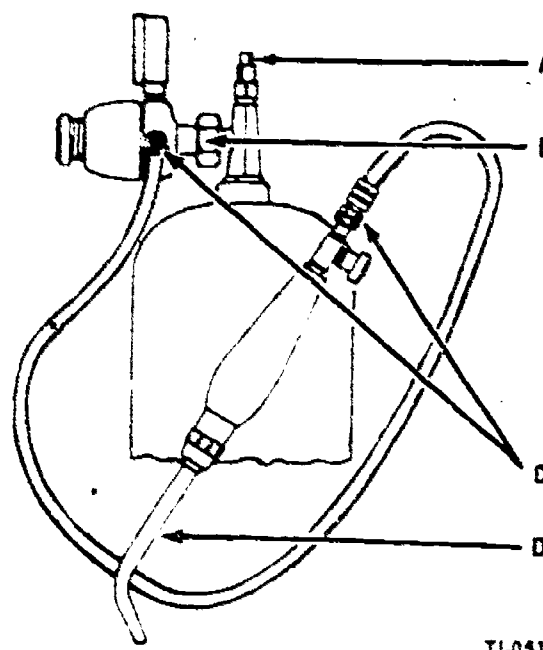

Figure 6
1. Connect regulator (B), figure 6, to the tank. Tighten the nut securely with a wrench.
2. Connect hose assembly (C) to the regulator and handle.
3. Connect the correct size torch tip (D) to the handle. Tighten the lock-nut finger tight only.